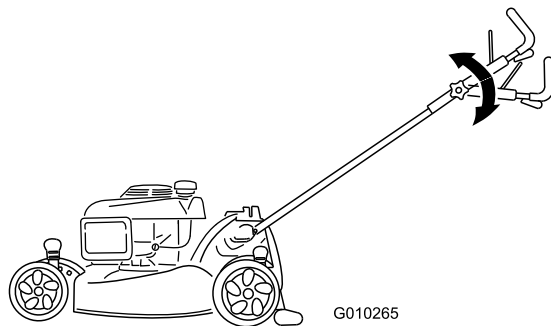

Figure 16
2. Move the upper handle to the desired position (Figure 16).